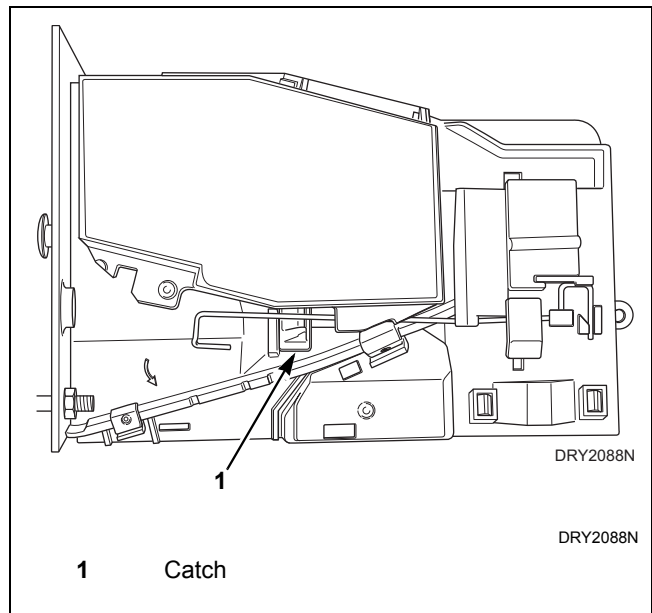

Figure 2
- a. Move spring downward until cover catch is free. Refer to *Figure 2*.